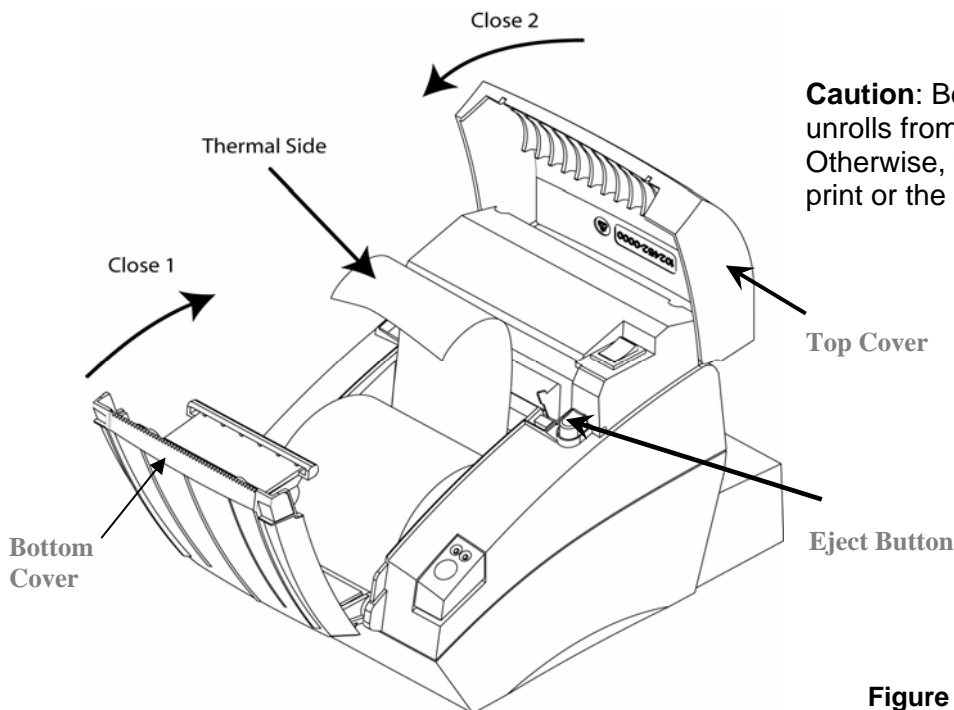

Figure 6: Loading Paper
5. Pull up on the bottom of the paper roll and align the paper properly before closing the covers. *Close the covers in the sequence shown in Figure 6.*